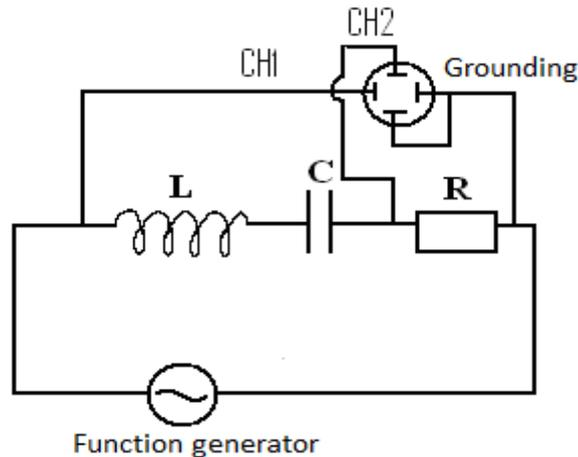

Figure 5. The setup for determining the phase difference in the LCR circuit.
- 5. Phase difference in the LRC circuit.** Build the LCR circuit shown in figure 5. Use a table top function generator like GW Instek (or corresponding). Use the following components: $C=1\mu\text{F}$, $R = 220 \Omega$ and L between 170 - 350 mH. Determine the phase difference of the LCR circuit with $f = 180 \text{ Hz}$. Phase difference can be estimated by measuring the distance between separate signals when they are in same phase. (You need to measure over all components e.g potential over resistor and other